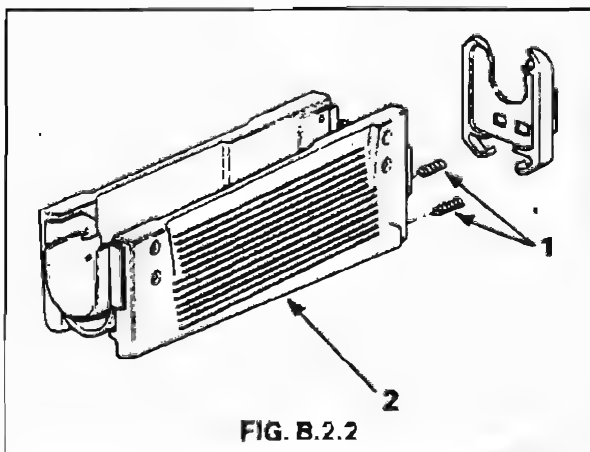

FIG. B.2.2
2. Remove the springs from the handguard. See Fig. B. 2.2.